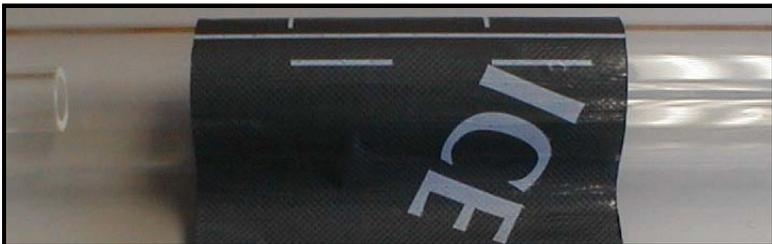

Figure 3-23: DMP-1 Dampening Material Wrapped Around Pipe
5. Before more atmospheric condensation can occur on the outside of the pipe, roll the DMP-1 dampening material once around the pipe, following the scribe marks that represent the inside edge of the fixture, as shown in Figure 3-23 below.